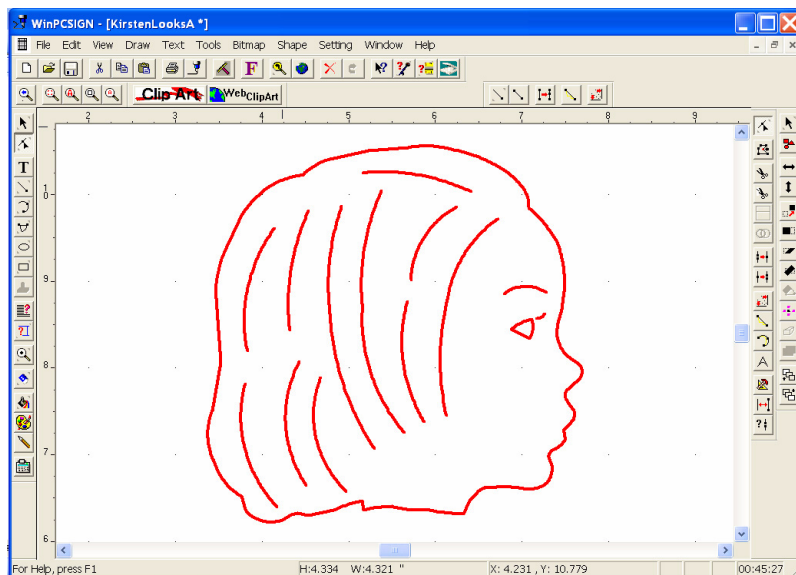

Figure 159
- 8 Fix any open paths. First, use the **Show Open Paths** tool to find unconnected end points. Next, use the **Join Two Points** tool to drag a small box around the points to connect the ends. See figure 159.